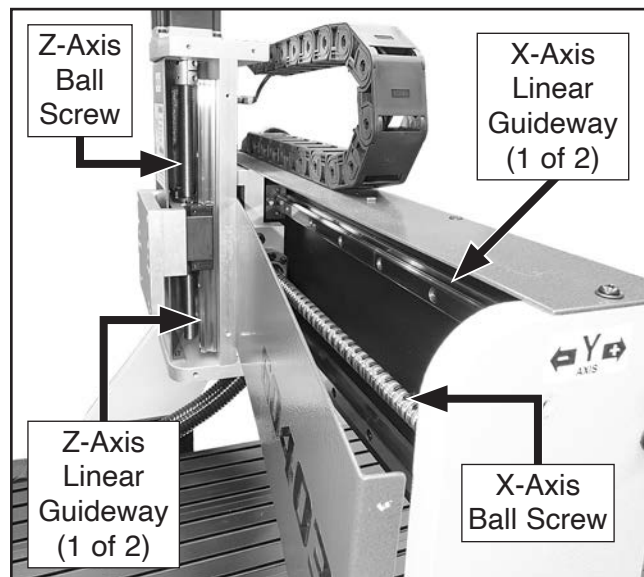

Figure 69. Location of X- and Z-axis ball screws and guideways.
4. Clean X- and Z-axis ball screws and guideways with a brush and mineral spirits to remove grime and old lubrication, as shown in **Figure 69**.
5. Use a clean shop rag to wipe entire length of X- and Z-axis ball screws and guideways with Grizzly T27914 or ISO 68 equivalent lubricant (see **Figure 69**).